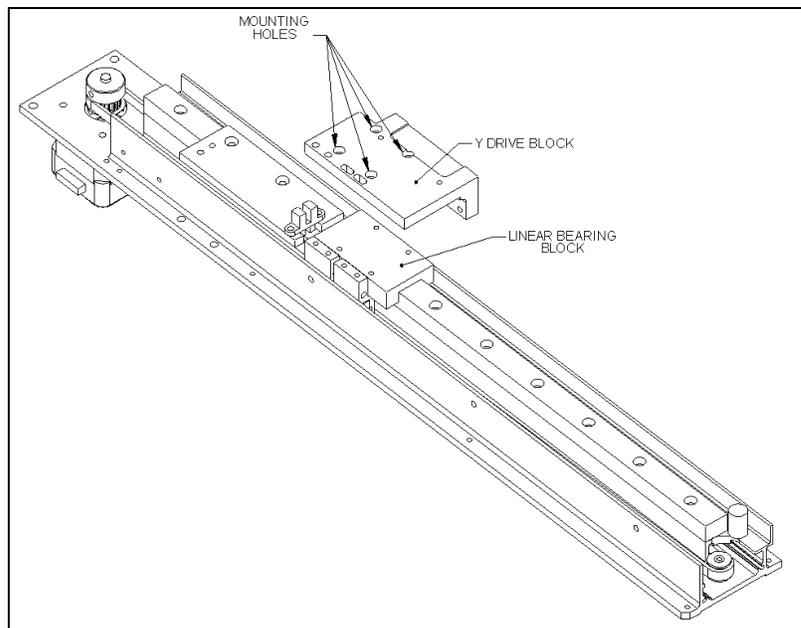

Figure 7-43 Removing Y-Drive Block
- 4 Remove the Y-Drive block from the linear bearing block by removing the four M3 x 6mm cap head screws (Figure 7-43).